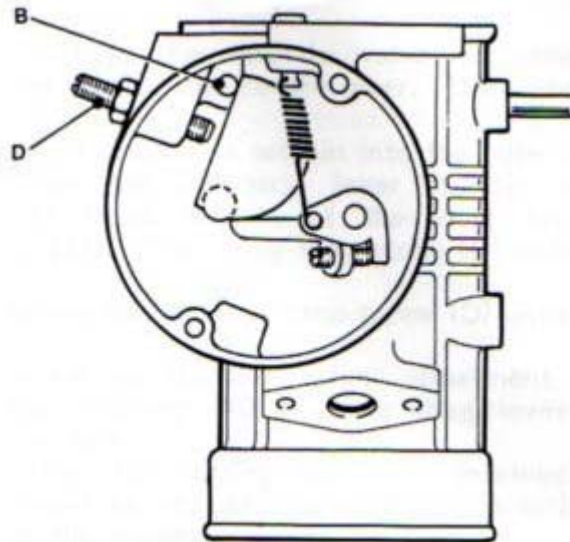

Fig.4
- Adjust the corresponding throttle valve positions by inserting a 4 mm diameter set-pin into the bore [B] in the casing. Press the eccentric lever slightly with the finger so the flat front surface just touches the set-pin, there should be no play. The idling stop screw [D] must not touch the lever (Fig. 4.)